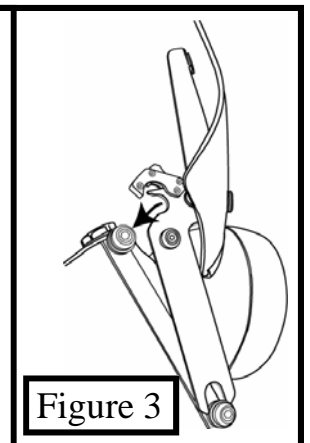

Figure 3
5. Slip the windshield mounting plates and windshield onto the upper and lower bushing assemblies, (see figure 3 and 5) and secure the left and right side locking mechanism.